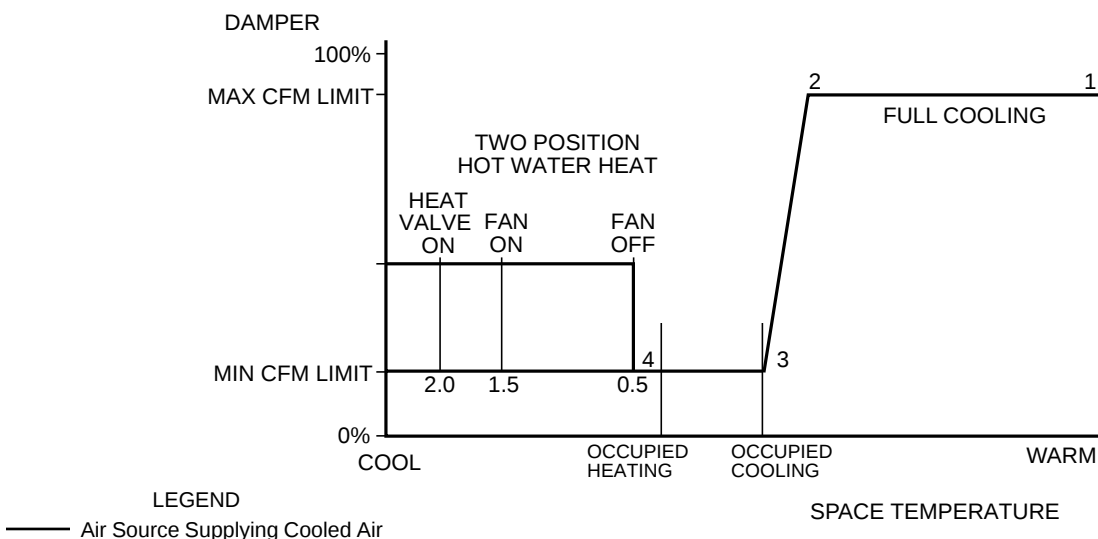

Figure 1 - Sequence of Operation for VVT Damper Control — Pressure Independent
- A. Cooling: When the primary air source is providing cooling (as detected by the primary air sensor). Refer to numbers on flow diagram. See Fig. 1.